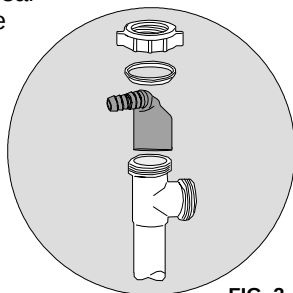

FIG. 3
4. Insert a new drain line adapter with barb (provided) into the top of the disposal tee until it firmly seats on the bottom of the socket. Gently secure with slip-joint washer and wing nut (provided). (See Fig. 3)